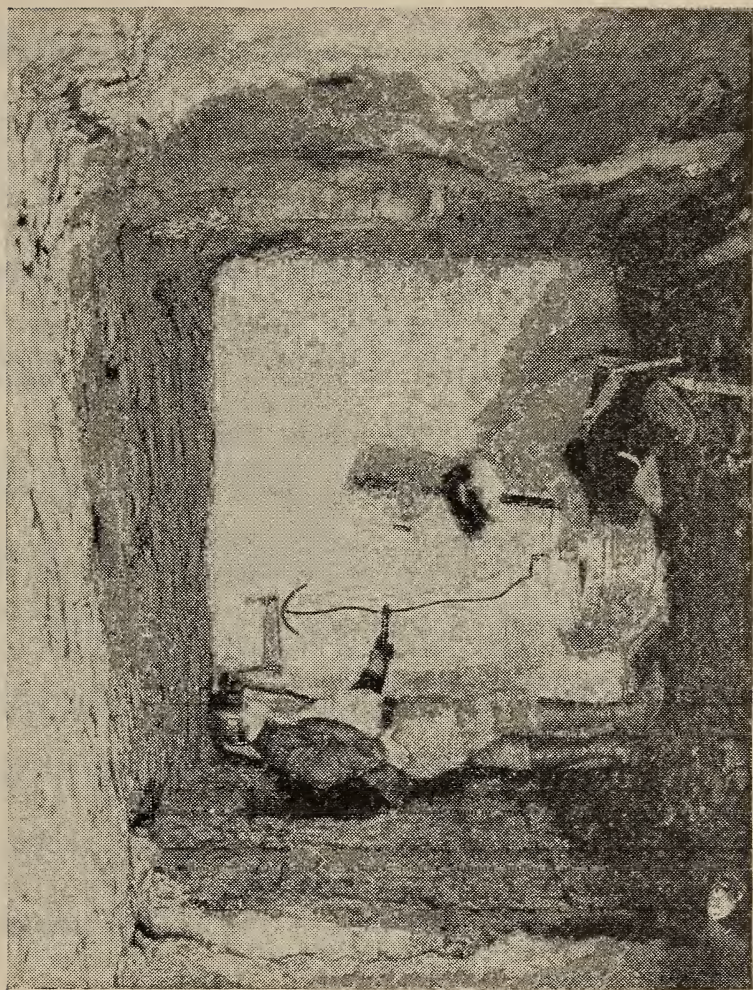

FIGURE 37.—Collecting a sample of air from behind a fire seal. The stopping has been provided with a water gage and breather pipe.
A. They should be constructed substantially of incombustible material, with pipes inserted to prevent the building up of pressure inside the seal and to allow sampling of the inside atmosphere. (See fig. 37.) Water traps should be provided for drainage when necessary.